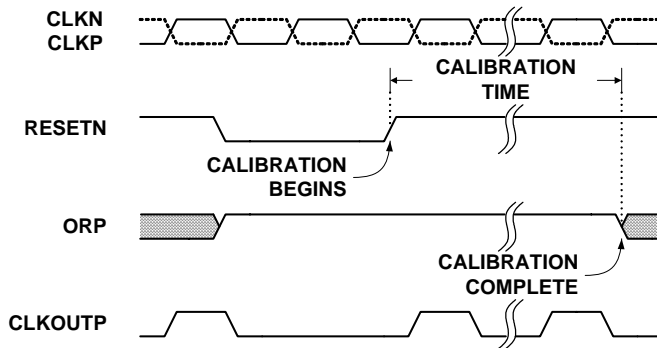

FIGURE 22. CALIBRATION TIMING
The calibration sequence is initiated on the rising edge of RESETN, as shown in Figure 22. The over-range output (OR) is set high once RESETN is pulled low, and remains in that state until calibration is complete. The OR output returns to normal operation at that time, so it is important that the analog input be within the converter's full-scale range to observe the transition. If the input is in an over-range condition the OR pin will stay high, and it will not be possible to detect the end of the calibration cycle.